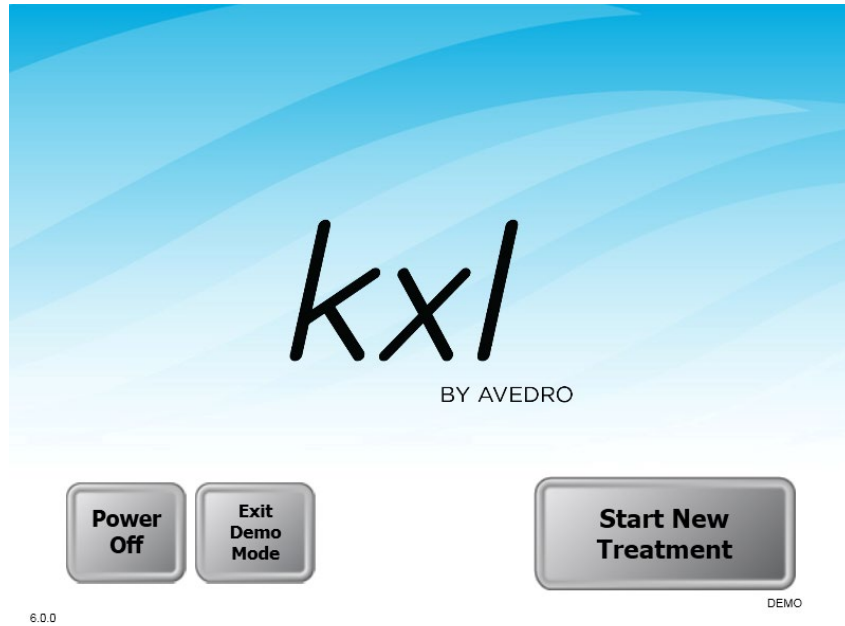
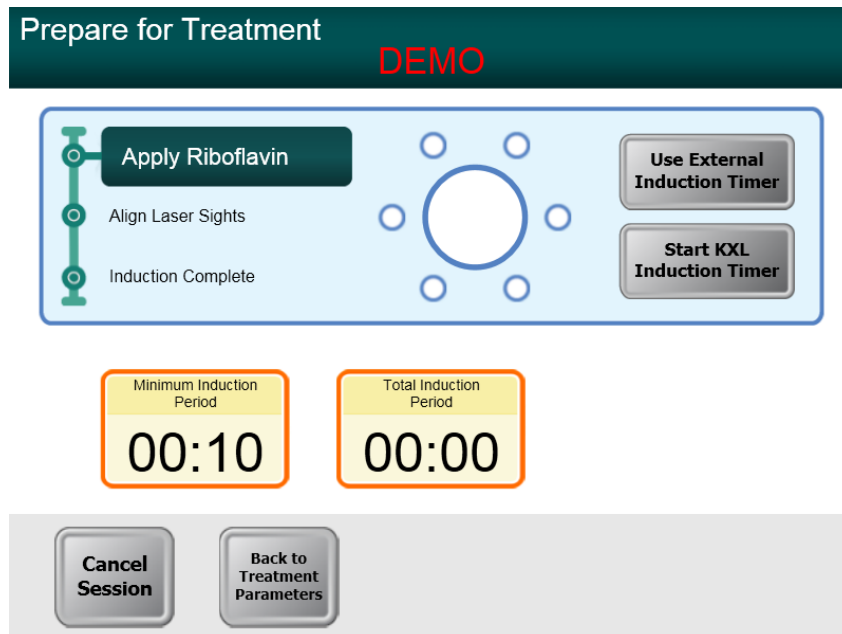

Figure 3-34. Mainscreen Indicates Demo Mode
Figure 3-35. Demo Mode is Indicated at Top of Screen
- The KXL System screens will indicate that the System is currently in “Demo Mode” as shown in Figure 3-34 and Figure 3-35.